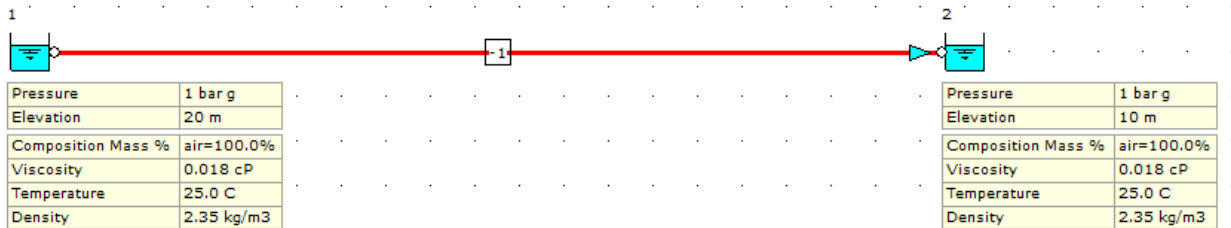

**Figure 38: Element Properties Dialogue Box.**
41. Now we will select the field titled *Properties* from the Input list. An *Element Properties* dialogue box will appear (Figure 38):